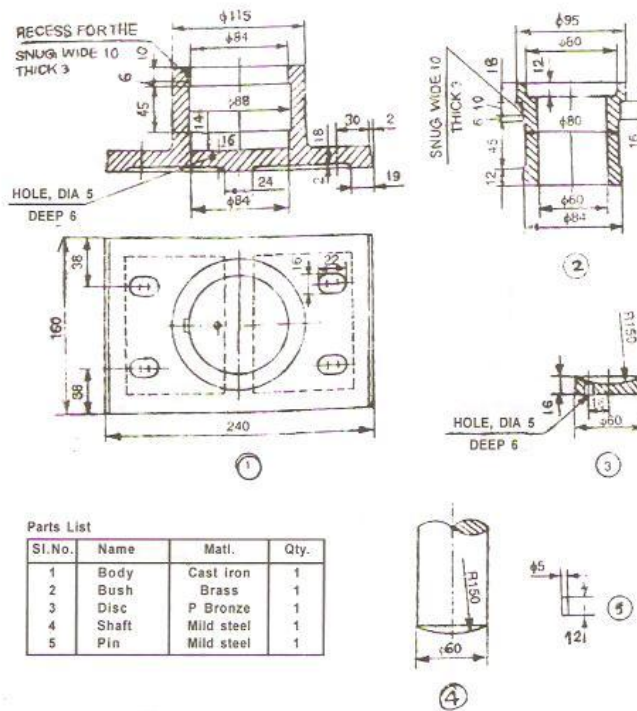

Figure 2 - Foot Step Bearing
3. Assemble the parts of a foot step bearing shown in Fig. 2 and draw sectional view from front and view from above of the assembly. 28